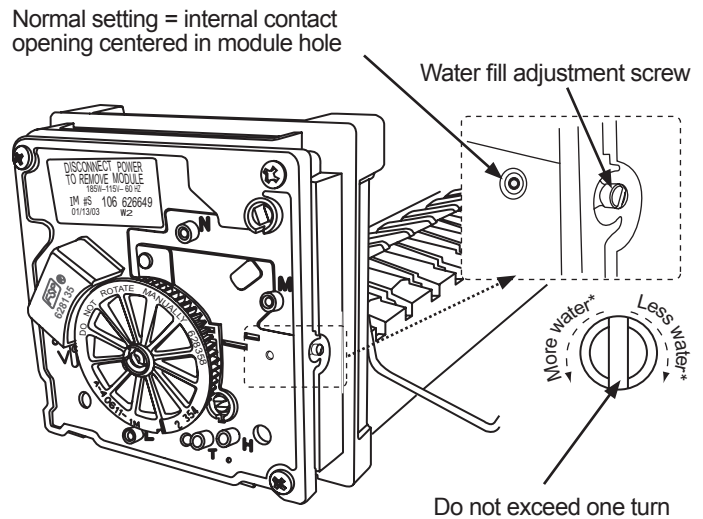

Figure 9-12. —Water adjustment screw and contact alignment location.
5. Locate the contact opening shown in Figure 9-12.
Do not turn the water fill adjustment screw if the contact opening is centered in the module hole. See Figure 9-12.
6. Turn the adjustment screw clockwise or counterclockwise to align the center of the contact with the module hole. See Figure 9-12.